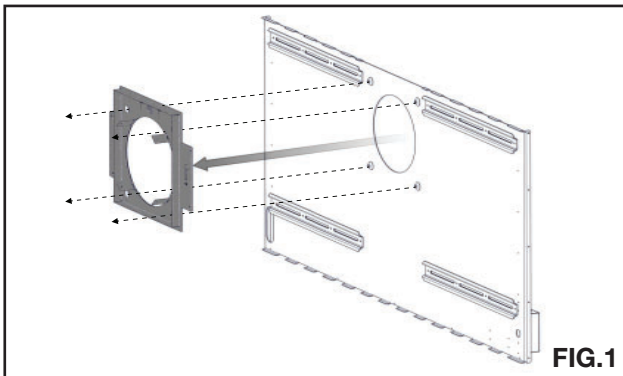

FIG.1
- D. Form the vent shield until the four screw holes overlap then secure from the inside out. **(FIG. 1)**
- D. Remove the four fasteners that secure the firestop spacer assembly (complete with the wall plate) from the wall mounting plate. **(FIG. 1)**